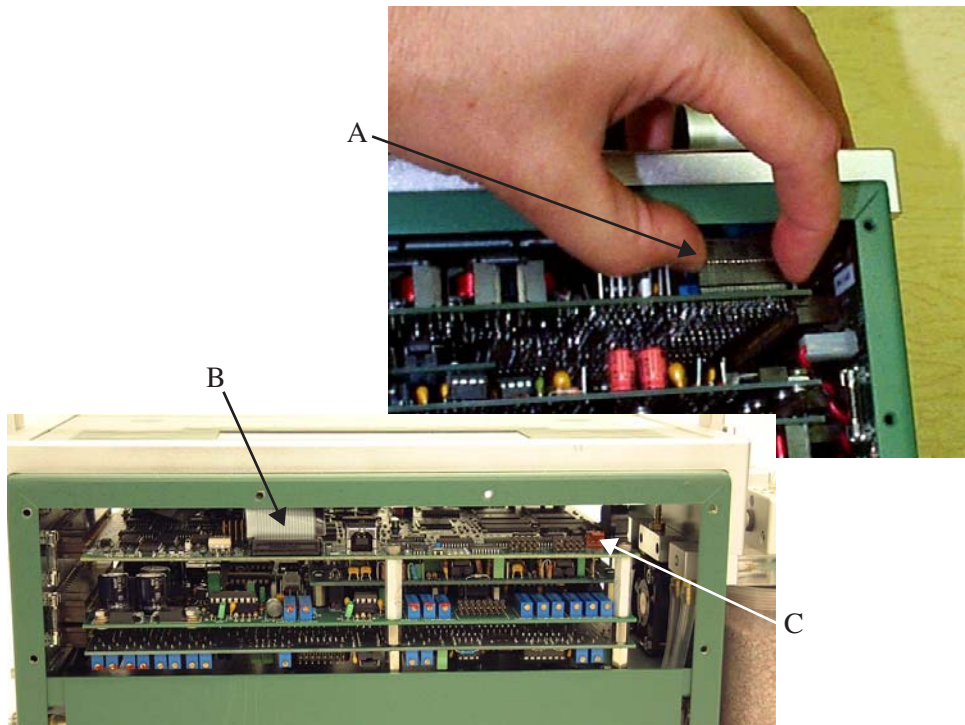

Figure 19-10. The keyboard (A), display (B), and backlight (C) connectors.
Unplug the keyboard connector by carefully lifting it up from the pins which it sits (A in Figure 19-10). Then, unplug the display connector on the other side of the console (B). Finally, if there is one, unplug the back light connector (C).